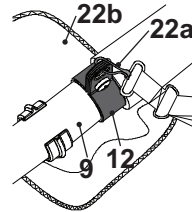

Fig. 16
5. Lock the harness on the suspension sleeve (12). Make sure the protection pad (22b) runs under the upper pole (9) (Fig. 16).